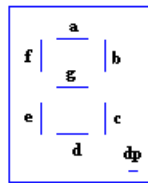

Figure 3, segments names
2. Make a table to decode the digits from 0-F into 7-segment codes. For example, since you are using a common cathode 7-segment display, a logic high value is needed on the data line to power-on any segment. The control line needs to turn the driving transistor on to get the segment lit. Figure 3 shows the segment labels used in Table 1 to obtain the digit codes. The first two entries are already decoded as an example. Complete the rest of the table up to the code needed for digit F.